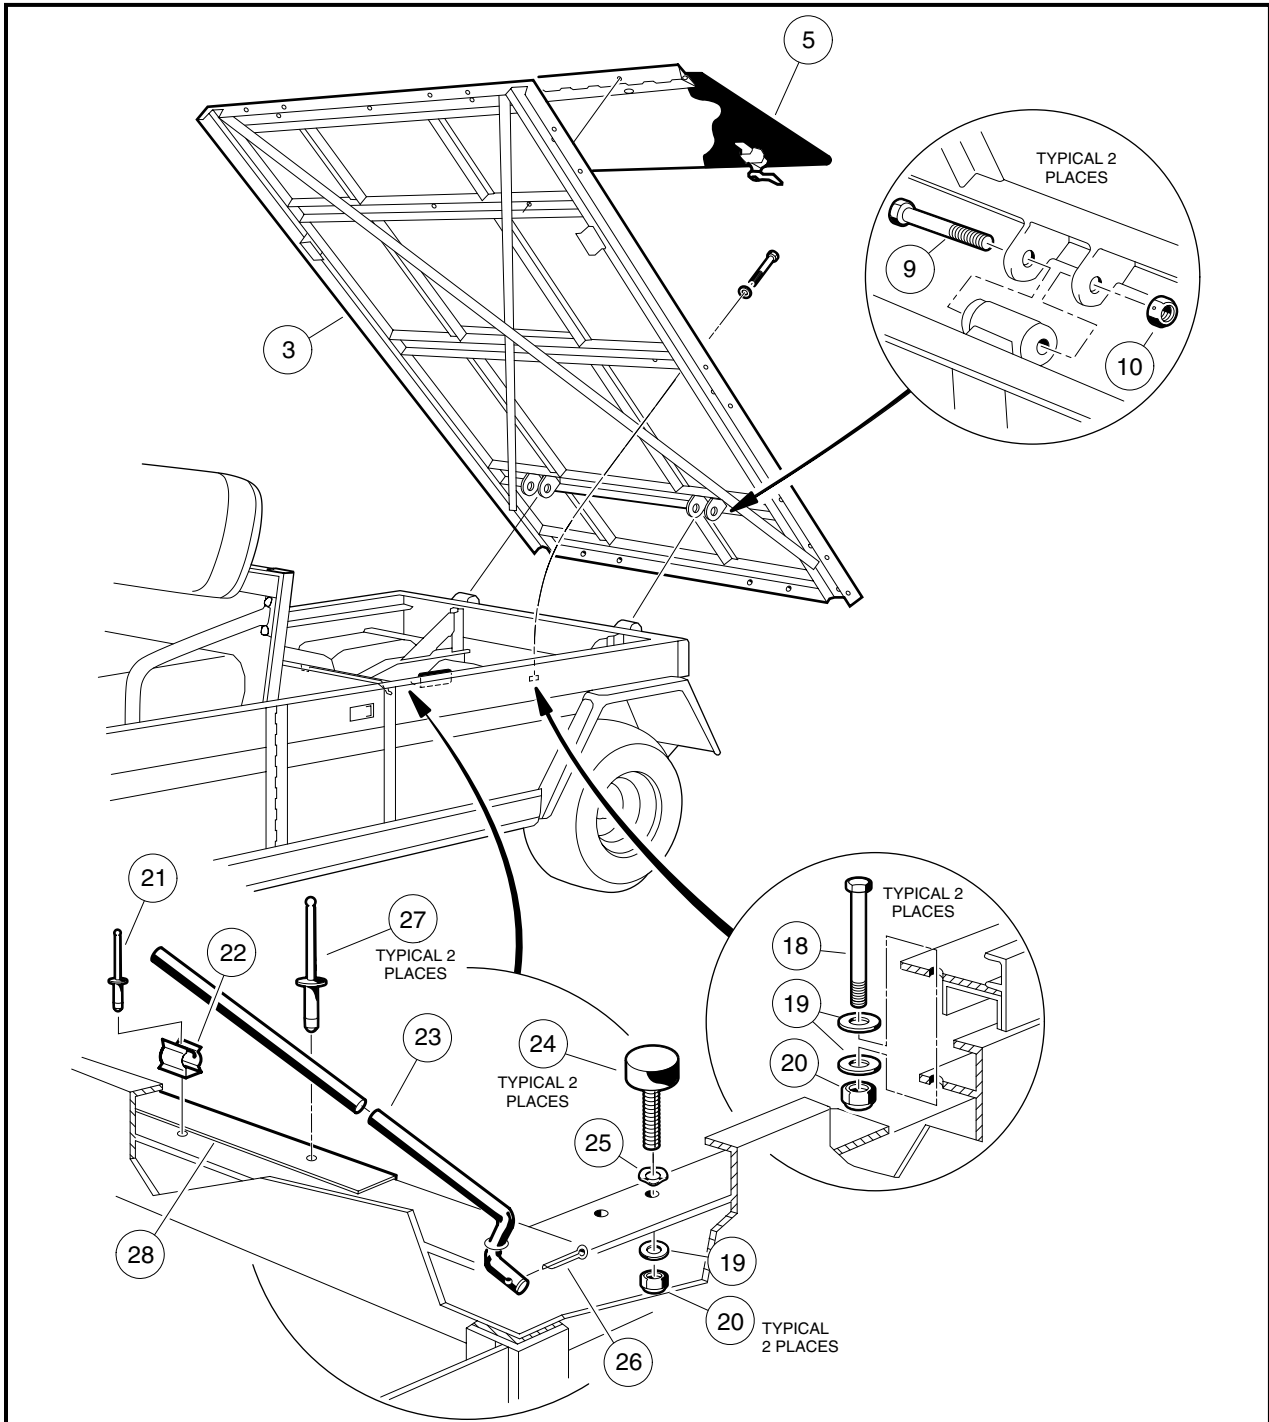

Figure 4-3 Flat Bed - Turf 6 and Carryall 6
1. Open access door in bed (5) and remove two locknuts (20), four flat washers (19) and two 1/4 x 4 bolts (18). Close and latch access door **(Figure 4-3, Page 4-8)**.
2. Remove two locknuts (10) from left and right hand flat bed hinge assemblies **(Figure 4-3, Page 4-8)**.
3. Remove two 3/8 x 3 -3/8 bolts (9). Lift bed from vehicle **(Figure 4-3, Page 4-8)**.
1. Place bed on vehicle with bed front edge 1 inch from seat back support panel (28) and open access door (5) **(Figure 4-3, Page 4-8)**.
2. Raise rear edge of bed 6 inches from vehicle frame and position bed so the left and right hand bed supports are resting on the support bumpers (24) **(Figure 4-3, Page 4-8)**.
3. Lower rear edge of bed onto vehicle and make sure hinge brackets align with bed hinge **(Figure 4-3, Page 4-8)**.
4. Start 3/8 x 3-3/8 bolts (9) into left and right hand hinge assemblies. (It may be necessary to use an alignment tool to align holes in hinge bracket with steel bushing in hinge assembly) **(Figure 4-3, Page 4-8)**.
5. Install a locknut (10) on each bolt and tighten to 14 ft-lb (18.9 N·m) **(Figure 4-3, Page 4-8)**.
6. Install 1/4 x 4 bolts (18), flat washers (19) and locknuts (20) through the bed frame and vehicle frame on both sides of vehicle. Tighten to 75 in-lb (8 N·m) **(Figure 4-3, Page 4-8)**.